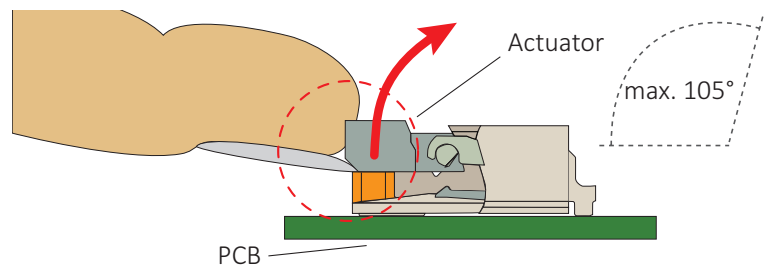

Figure 12: Opening the FPC connector
1. Opening the FPC connector: With your fingernail*, flip the actuator to open position at 105° to the PCB surface, see Figure 12.